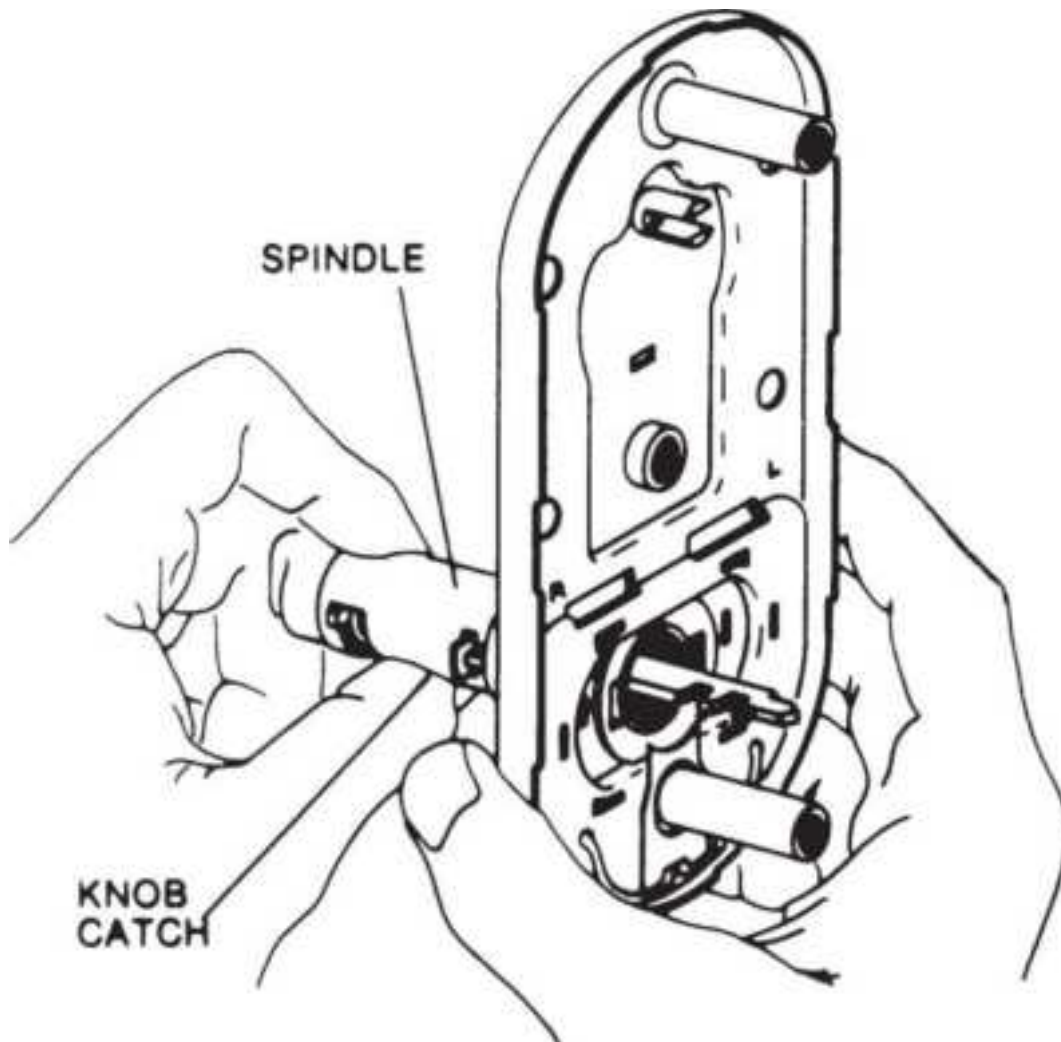

**Figure 13.75** Changing hand, Step 6.
6. Rotate the spindle 180° to relocate the knob catch (Fig. 13.75).